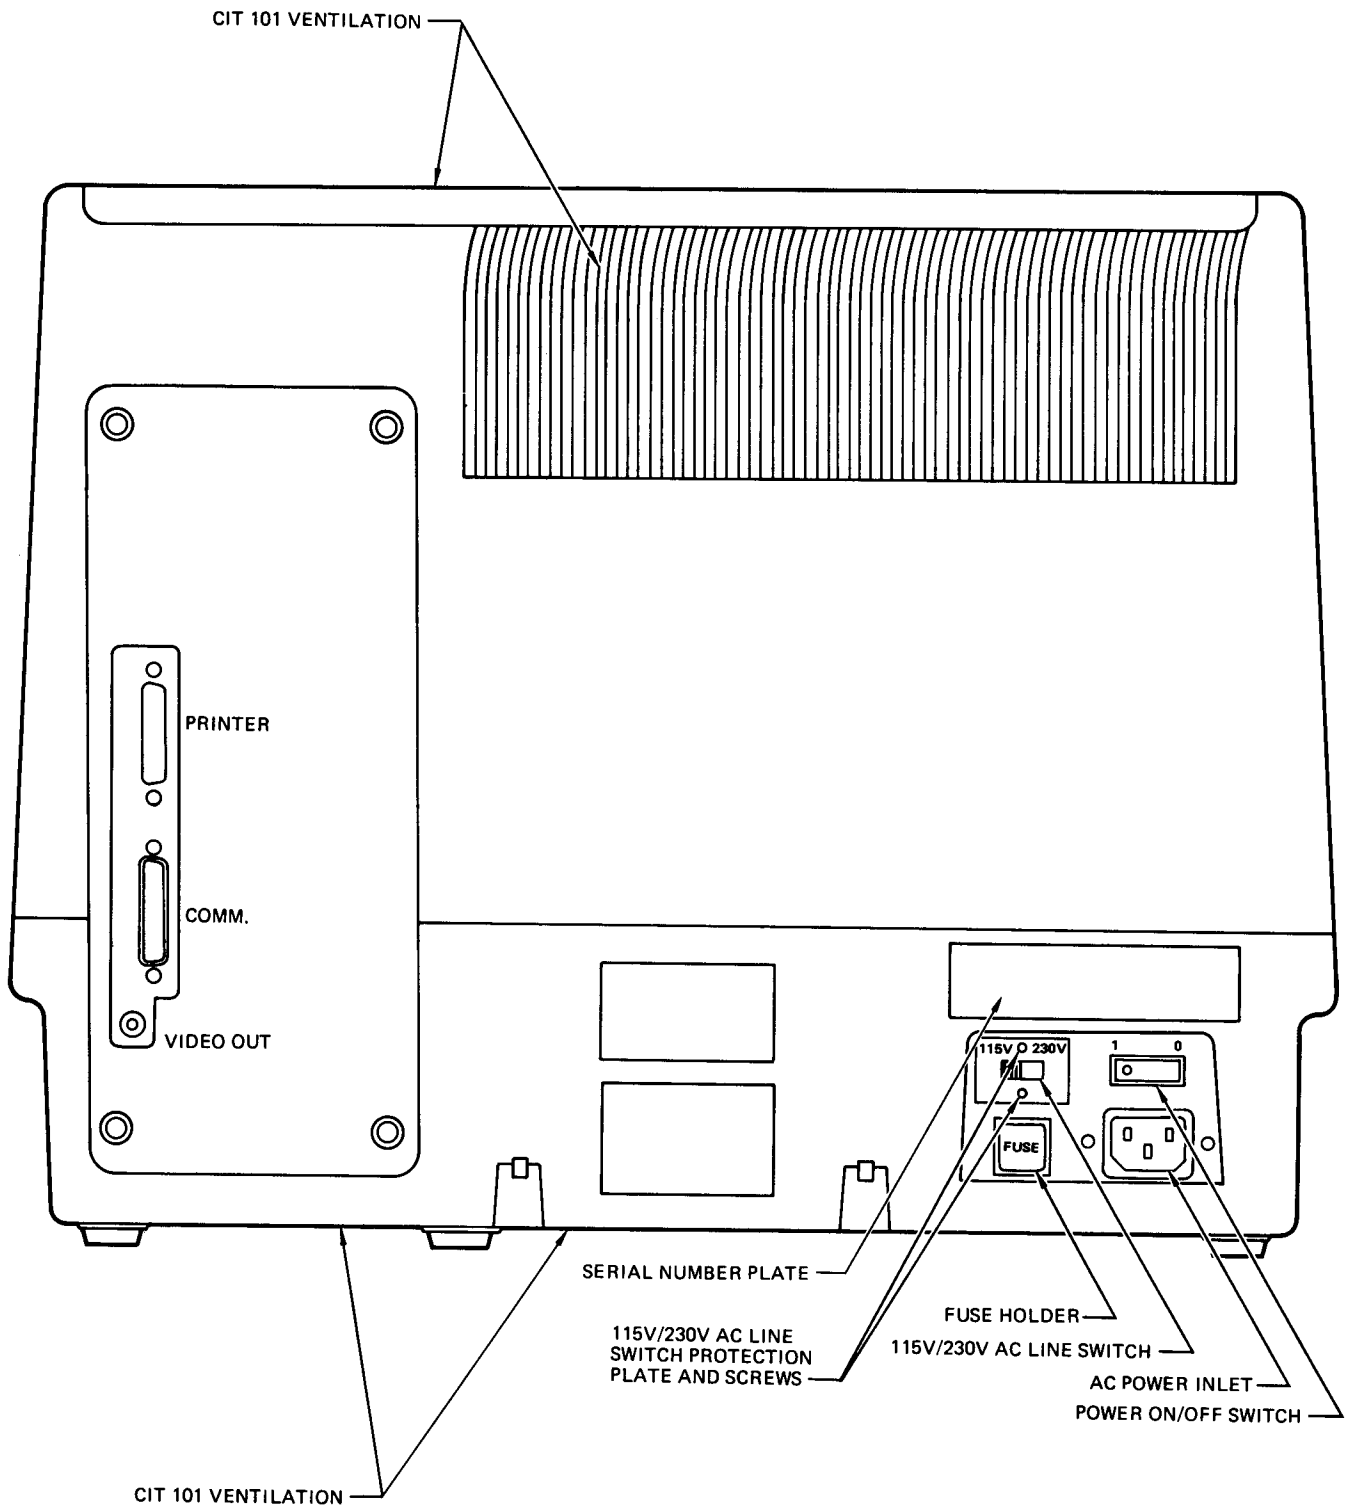

Figure 2-2. CIT-101 Connectors and Controls
**2.6.2.2 AC Line Voltage Connection.** Verify that the CIT-101 AC line switch setting is set to value of voltage supplied, refer to figure 2-2. If the AC line switch is not set to the proper voltage, perform the following:
Apply power using the power ON/OFF switch located on the rear of the terminal as shown in Figure 2-2. The CIT-101 should immediately respond with a beep tone, a pause of about 3 seconds, and a second beep of equal length. If the second beep is of the same duration as the first and no message appears on the screen, your unit has successfully completed self-test and is ready for connection to a host computer and terminal configuration. Refer to Section III SET-UP Modes, for more information about configuring the CIT-101 for your computer.
**2.6.5.1 Communication Ports.** In the standard system configuration the CIT-101 is interfaced with the host computer via the communication I/O port according to EIA RS232 or 20 ma current loop conventions. See Figure 2-2 for location of the communication and printer connector. The male D connector labeled COMM, located at the rear of the CIT-101 is used for host computer communication. Table 2-1 provides the RS232-C pin assignments for the COMM connector. Communication parameters, (eg: baud rates, parity, etc.), are selected via the SET-UP modes (refer to Section III).